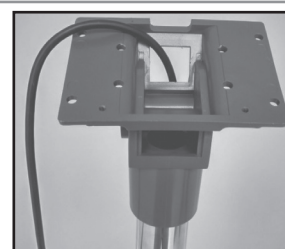

Fig. 5
5. Place the indicator on the bracket and secure it with (4) screws. (Fig. 5)